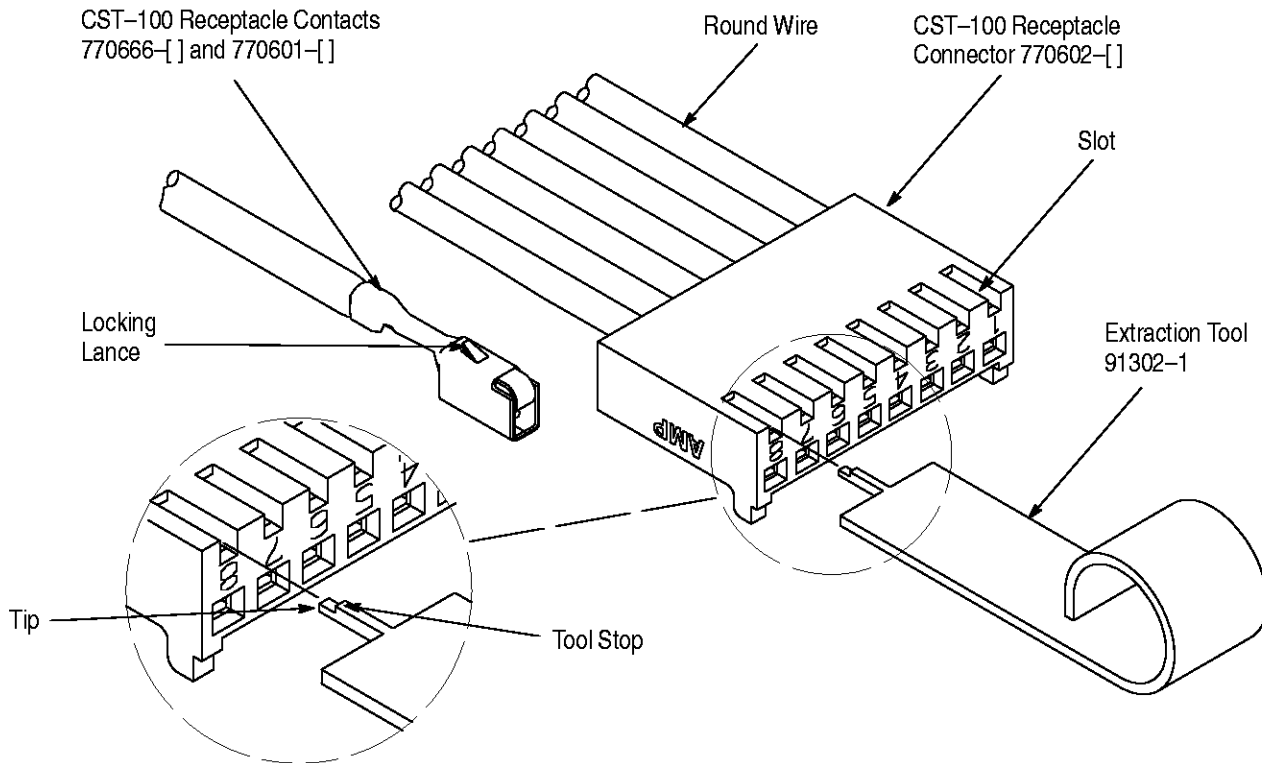

Figure 1
AMP\* Extraction Tool 91302-1 is designed to extract individual AMP CST-100 receptacle contacts from CST-100 connector housings. See Figure 1 for a typical CST-100 receptacle contact and connector housing. Read this sheet carefully before using the tool.
1. With the extraction tool positioned as shown in Figure 1, insert the tip straight into the slot until the tool stop bottoms on the connector.